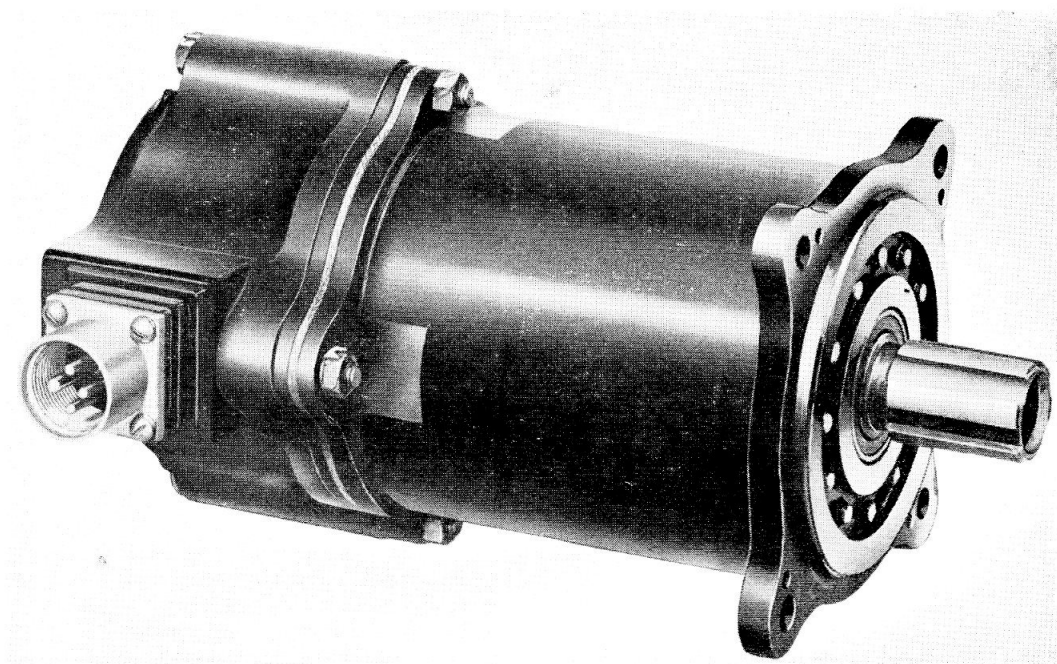

Fig. 3. Gearbox, Type ZA3701
5. This unit (fig. 3) is designed specifically for use with the C7001 actuator. It comprises, in the main, a gear and clutch assembly and an electro-magnetic brake assembly.